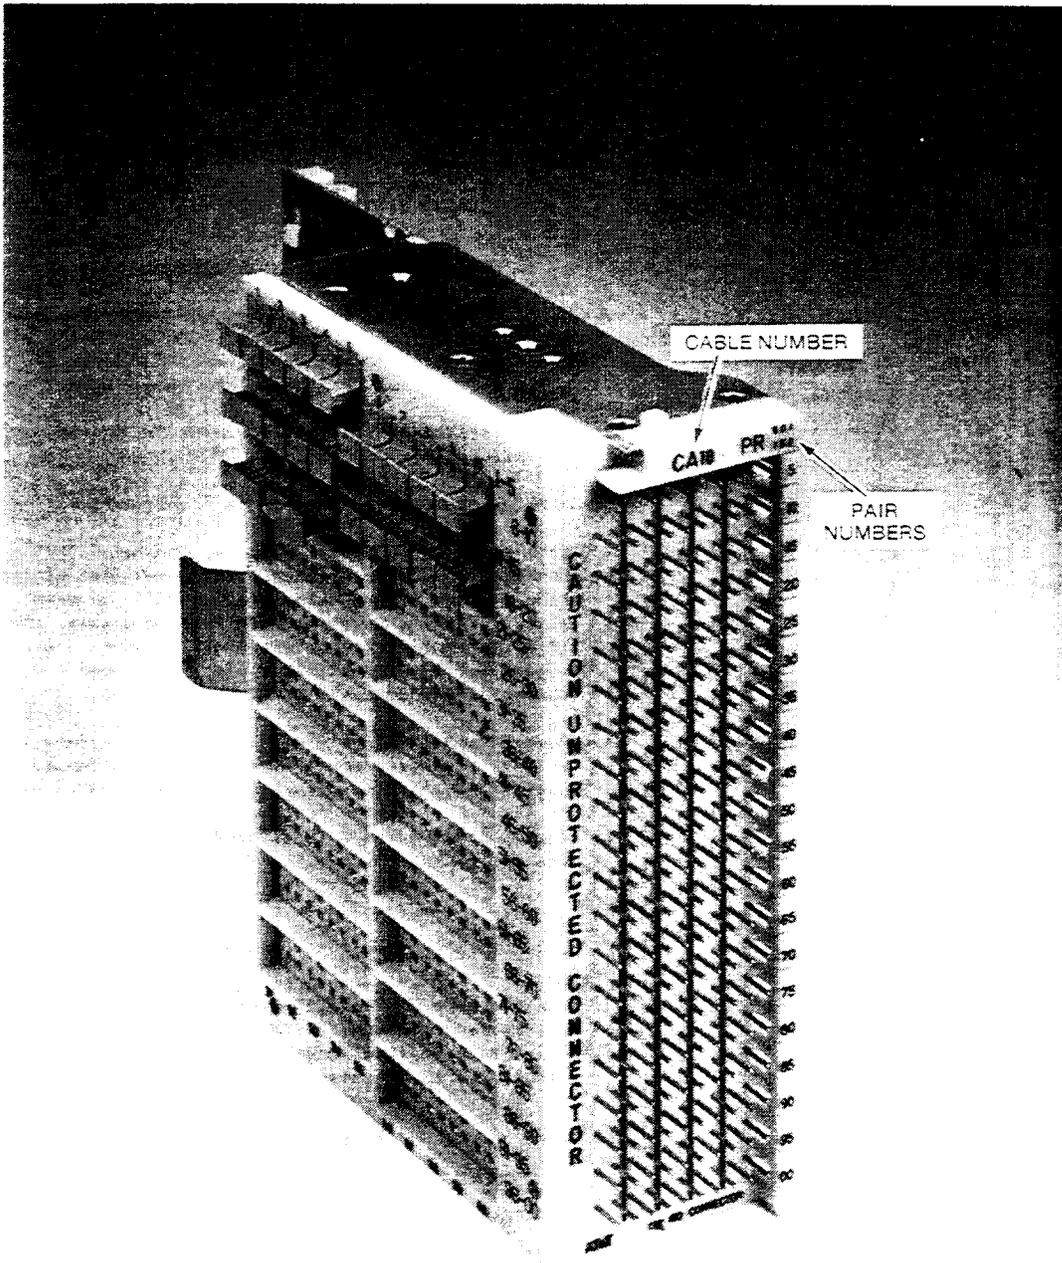

Figure 10. Marking Cable and Pair Numbers
**3.10** Use the B or W transfer stenciling kit, as described in AT&T 081-860-105, for marking the cable and pair numbers. AT&T 636-200-011 covers the marking of main frames. Mark the 410- and 410M-type connectors in a manner similar to that shown in Figure 10.